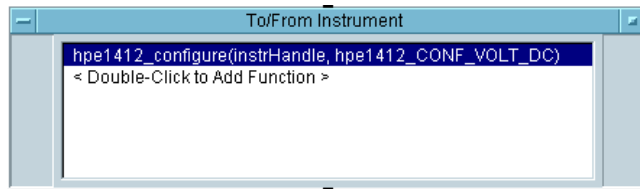

Figure 110 DC Voltage Function in VXIplug&play Object
- 7 Click **OK**. The To/From Instrument object now contains an entry for **hpe1412_configure(instruHandle,hpe1412_CONF_VOLT_DC)**, as shown in Figure 110.